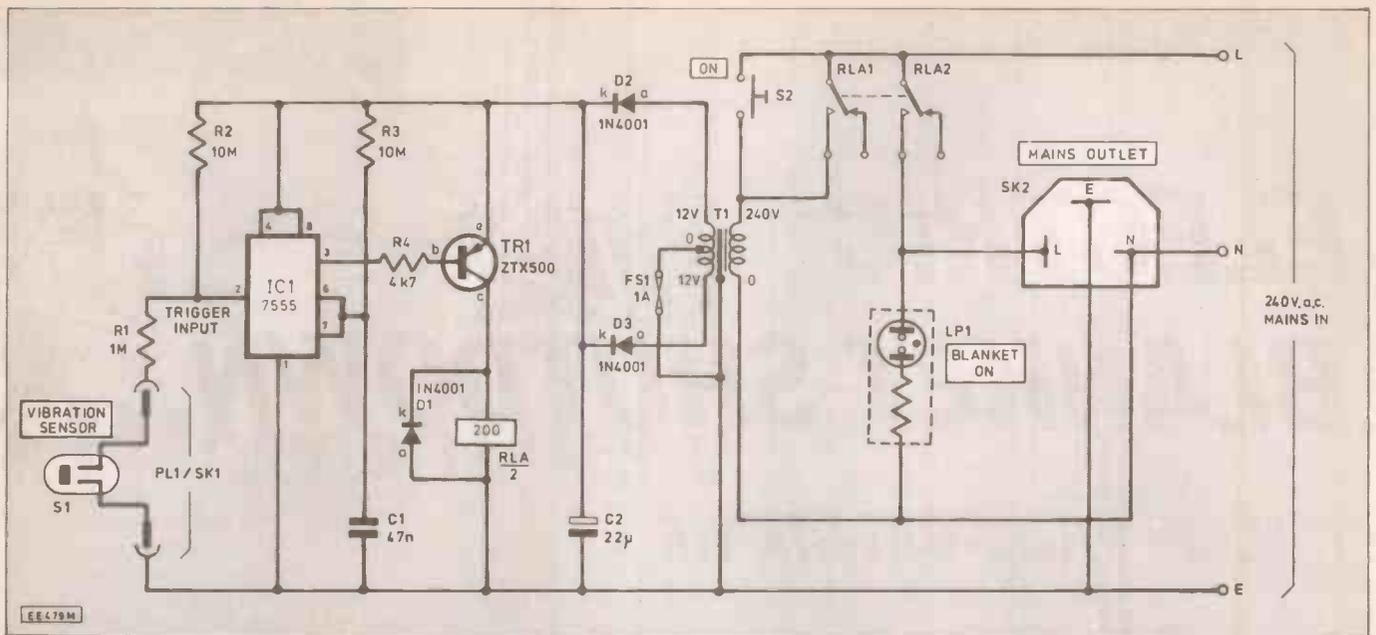

Fig. 1. Circuit diagram of the Electric Blanket Shut-Down.
The complete circuit for the Electric Blanket Shut-Down is shown in Fig. 1. With switch S2 (ON) pressed, mains current flows through transformer T1 primary. Diodes D2 and D3 operate as a conventional full-wave rectifier in conjunction with the centre-tapped secondary winding of T1. Capacitor C2 smooths the d.c. supply to the rest of the circuit. Fuse FS1 protects the low-voltage section.